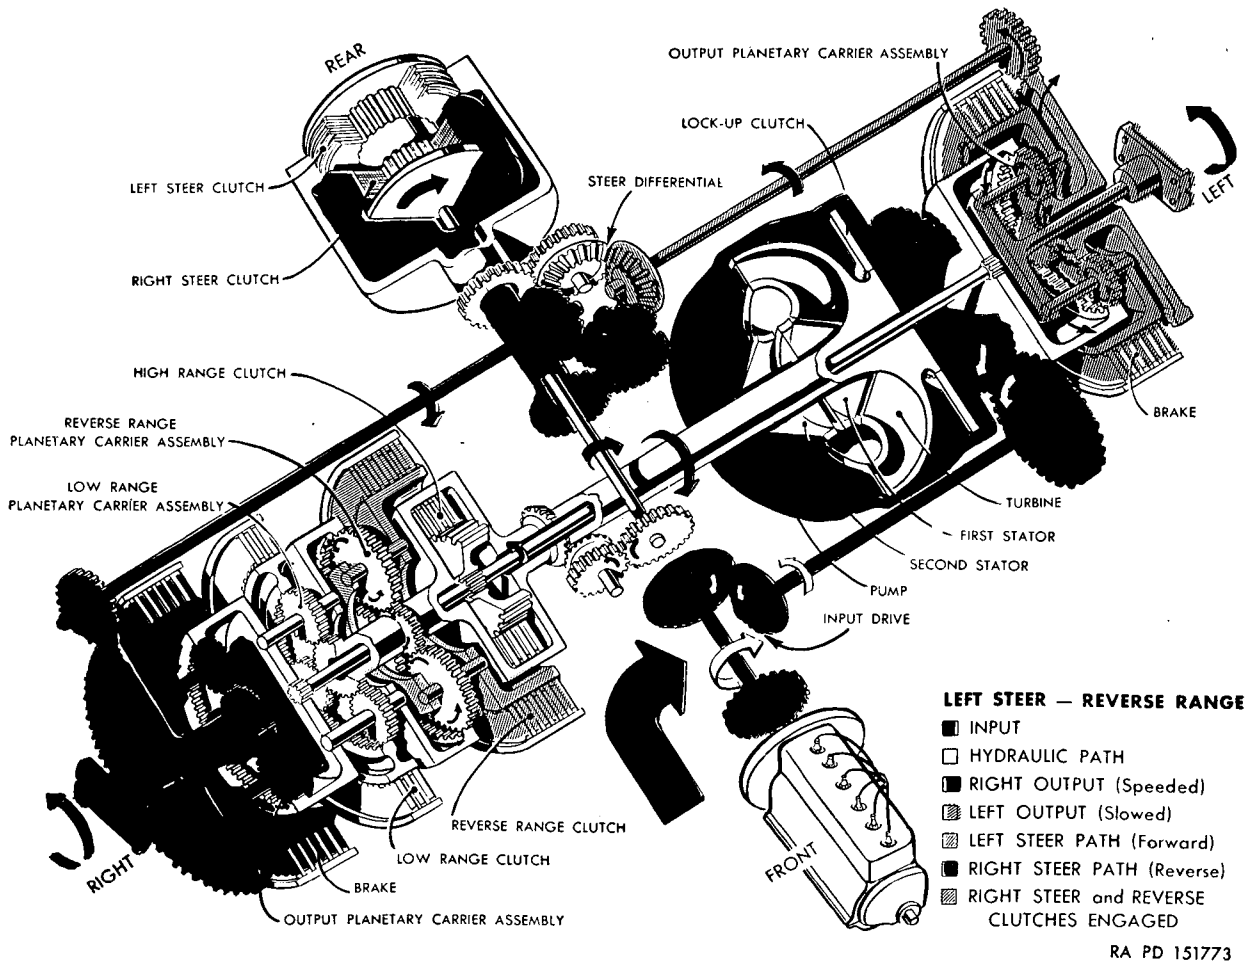

Figure 34. Left-steer reverse-range power flow.
(9) *Left steer in reverse range* (fig. 34). In reverse range, the output ring gears are driving the output planet carriers in a reverse direction. Therefore, it is necessary to move the steering control lever to the right in order to steer to the left. When the right steering valve is actuated, main oil pressure (150 psi) is directed to the right steering clutch piston, engaging the clutch. The clutch receives pressure proportional to the amount of steer applied. With the right steering clutch engaged, hydraulic drive is transferred to the steering differential. The differential